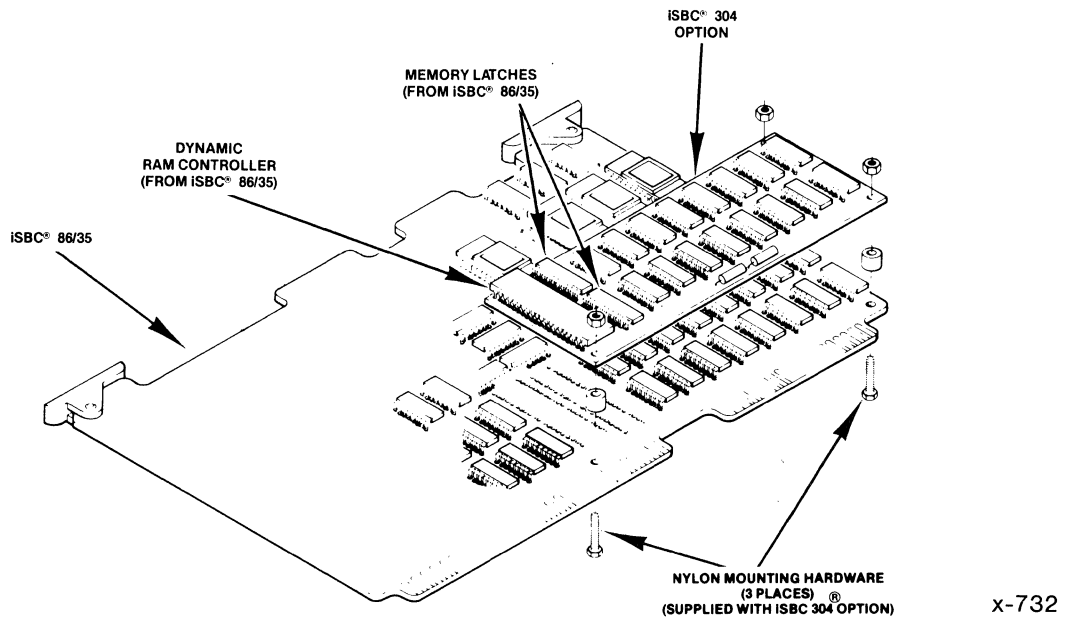

Figure B-1. iSBC® 304 RAM Expansion MULTIMODULE™ Board Installation
4. Install the mating pins of the iSBC 304 MULTIMODULE onto the socket U72 of the iSBC 86/35 board, orienting the module as shown in Figure B-1. The iSBC 304 module connector pins fit directly into board sockets U72, U73, and U95. It also fits into board connectors J6, J10.